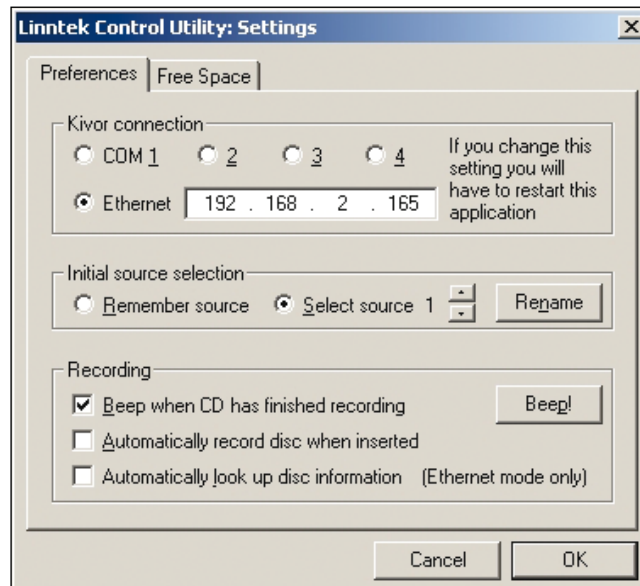

Fig. 2 - Linntek Control Utility: Settings
14. Now the KIVOR Ethernet port is configured it should be possible to connect the Linntek control utility to the KIVOR by using the network connection. To do this, right-click on the Linntek title bar and select **Settings** (see fig. 2).